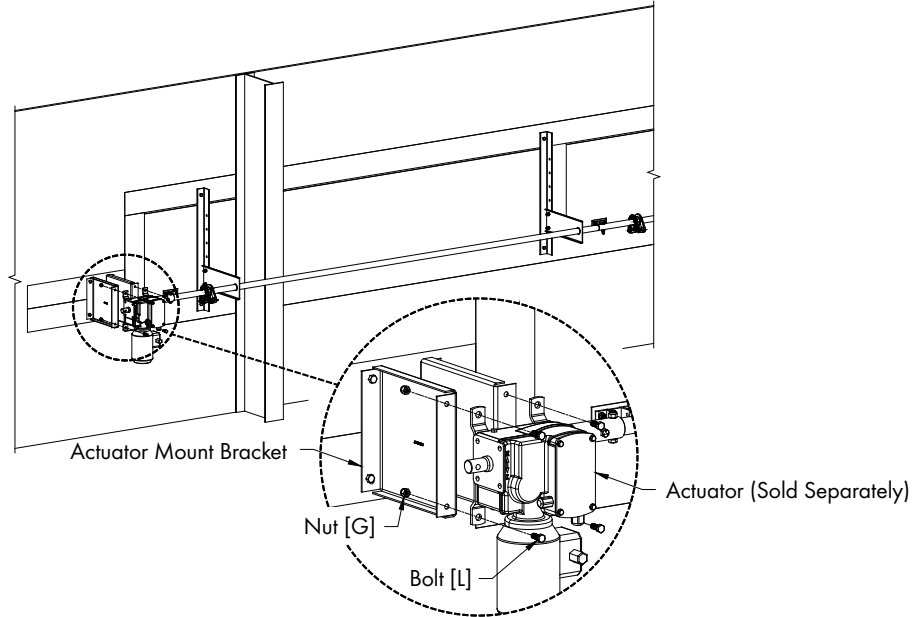

Figure 31
Attach Actuator to Actuator Mount Bracket [16] using (4) Bolts [L] and (4) Nuts [G]. See Figure 31. Make sure the Shaft extending from the Actuator is aligned with the Drive Pipe.